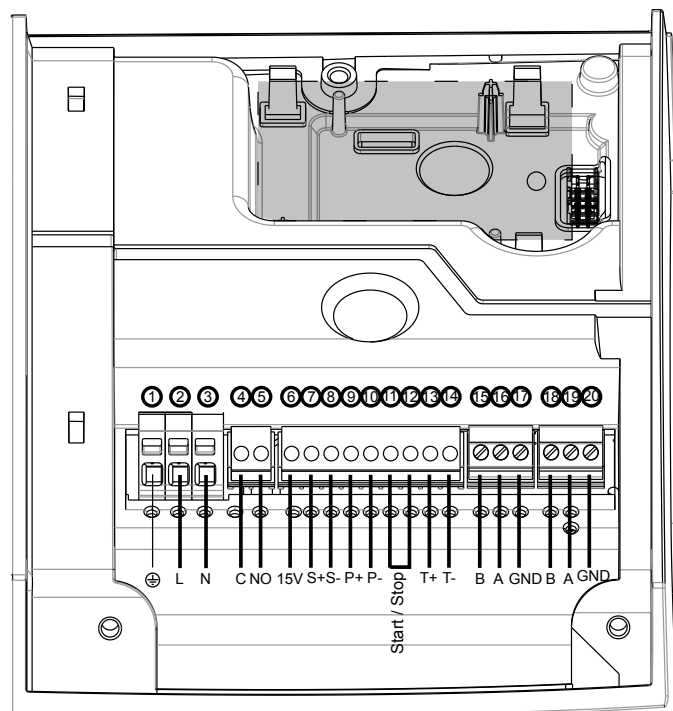

Figure 4: Connection diagram
The pump can be started or stopped via an external dry contact or a relay that is connected to terminals 11 and 12. The pump unit is provided by default, with the terminals 11 and 12 jumpered. See Figure 4 on page 8.
The pump integrates a 0-10 V analog input at terminals 7 and 8. See terminal diagram figures for changing the setpoint. See Figure 4 on page 8.
A dry contact relay is provided at terminals 4 and 5. See connection diagram, figure 4 on page 8, for location. If there is a fault, the relay contact closes to display a red status light and the error code on the user interface display. See User interface (page 8). The relay contact closure can also be used to energize a remote fault display.
2. Connect wires at terminals 9 and 10. See Figure 4 on page 8.
5. Select the right sensor model and confirm the selection using the parameter button (3). See User interface (page 8).
7. The setpoint can be changed using the settings button (5). See User interface (page 8).
The pump has a built-in RS-485 communication channel (terminals 15-16-17). See Figure 4 on page 8.